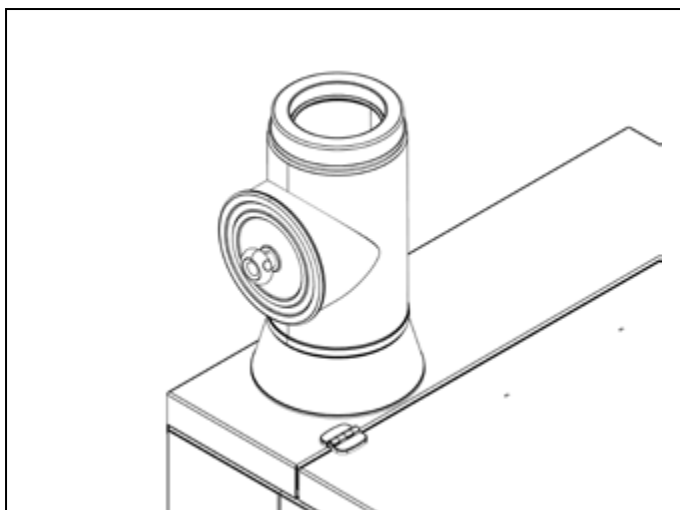

Figure 11-11: Combustion test point
- To access the flue inspection hatch, remove the circular outer cover. To do this, turn the knob in the centre of the outer cover approximately one turn anticlockwise and pull the cover away from the inspection pipe. Refer to Figure 11-11.